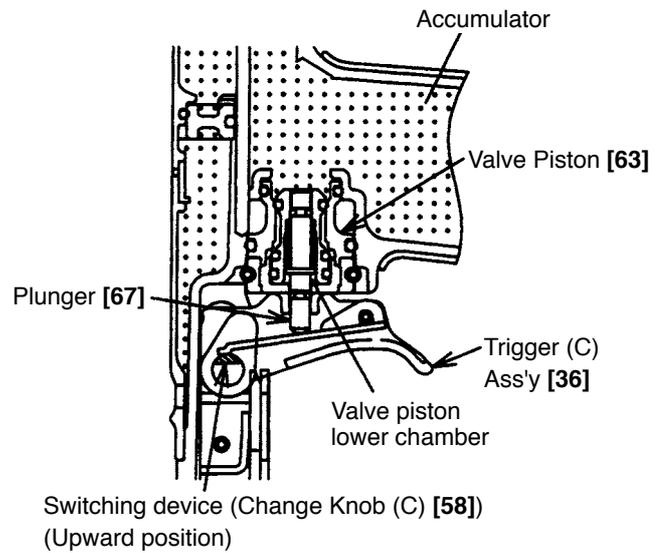
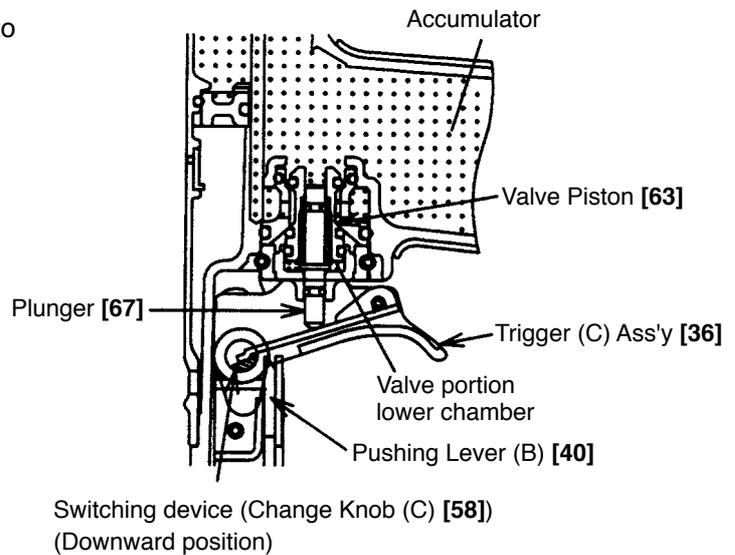

Fig. 8 Single actuation mechanism
Fig. 9 Contact actuation mechanism
(4) Single actuation mechanism/contact actuation mechanism: (Fig. 8 and Fig. 9)
- 2) When only Pushing Lever (B) [40] is released and Trigger (C) Ass'y [36] is held as shown in Fig. 8, the plate of Trigger (C) Ass'y [36] contacts Change Knob (C) [58] and the Plunger [67] returns (lowers) only halfway.
- 2) Even when only Pushing Lever (B) [40] is released and Trigger (C) Ass'y [36] is held, the Plunger [67] returns (lowers) completely as shown in Fig. 9. Thus the Piston [12] returns (raises) fully. Accordingly, continuous nailing can be accomplished by pushing only Pushing Lever (B) [40] up and down while holding Trigger (C) Ass'y [36] depressed.